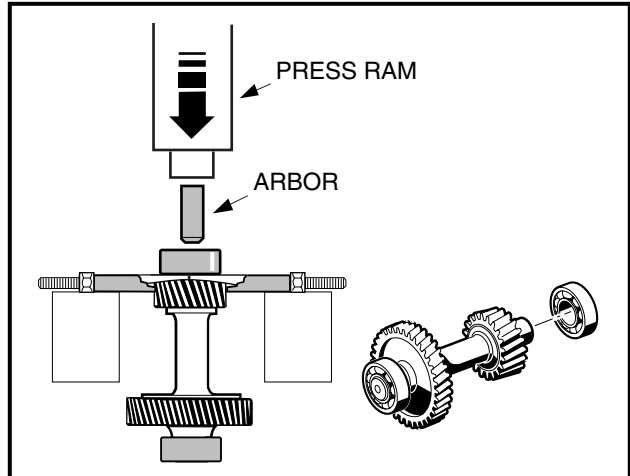

Figure 7-23 Remove Bearing
1. Place a bearing puller wedge attachment (CCI P/N 1012812) between the bearing (67) (**Figure 7-16, Page 7-9**) and the small gear on the idler shaft (66), then press the bearing off the shaft (**Figure 7-23, Page 7-14**). See following **CAUTION**.